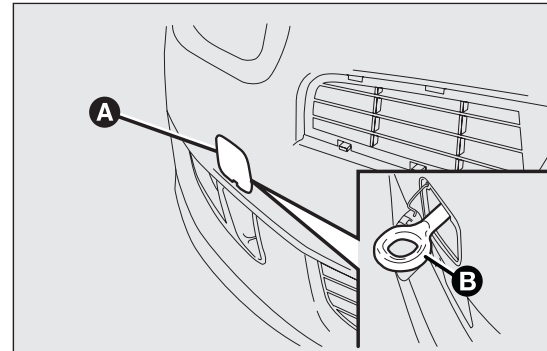
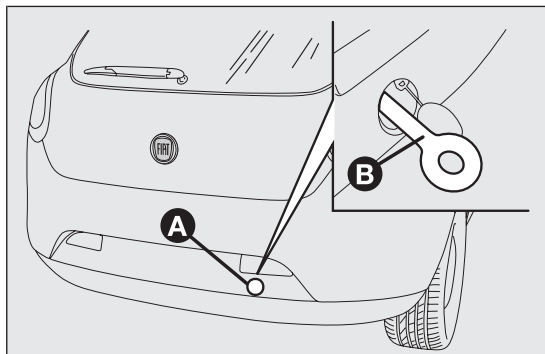

fig. 196
fig. 197
- release the cap by operating on tab A fig. 196–fig. 197;